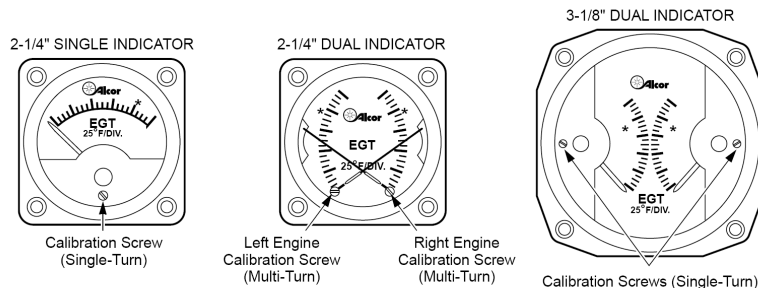

FIGURE 2. - CALIBRATION SCREW LOCATION (Front View of Indicator)
- Step 3.** Use the calibration screw (see **Figure 2**) on front of EGT to adjust the needle to the asterisk (\*), with the *Alcor*® screwdriver provided.